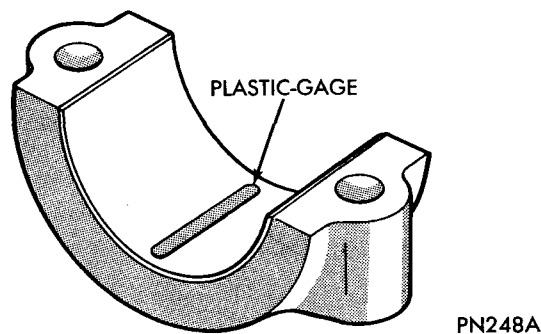
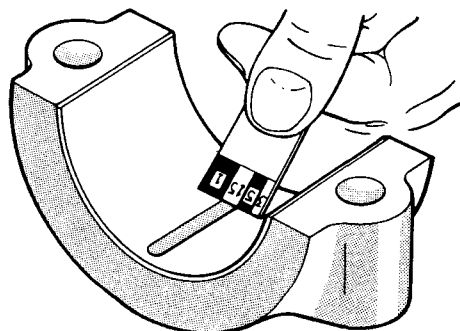

Fig. 36—Plastic-Gage Placed in Lower Shell
Fig. 37—Clearance Measurement
lower insert at the center of bearing cap (Fig. 36).
(3) Install bearing cap to connecting rod and tighten retaining nuts to 45 foot-pounds torque.
(4) Remove bearing cap and determine amount of clearance by measuring the width of the compressed Plastic-Gage with the scale furnished (Fig. 37).
(5) New bearings should be installed if bearing clearance is not within specifications. Excessive taper indicates that a new or reground crankshaft is required.
(2) Remove main bearing cap and insert.
(3) Clean insert and exposed portion of crankshaft journal.
(4) Place strip of Plastic-Gage across full width of bearing insert (Fig. 36).
(5) Install bearing cap and tighten bolts to 85 foot-pounds torque.
(6) Remove bearing cap and determine amount of clearance by measuring width of compressed Plastic-Gage with furnished scale (Fig. 37).
(7) New bearings should be installed if bearing clearance is not within specifications. Excessive taper indicates that a new or reground crankshaft is required.